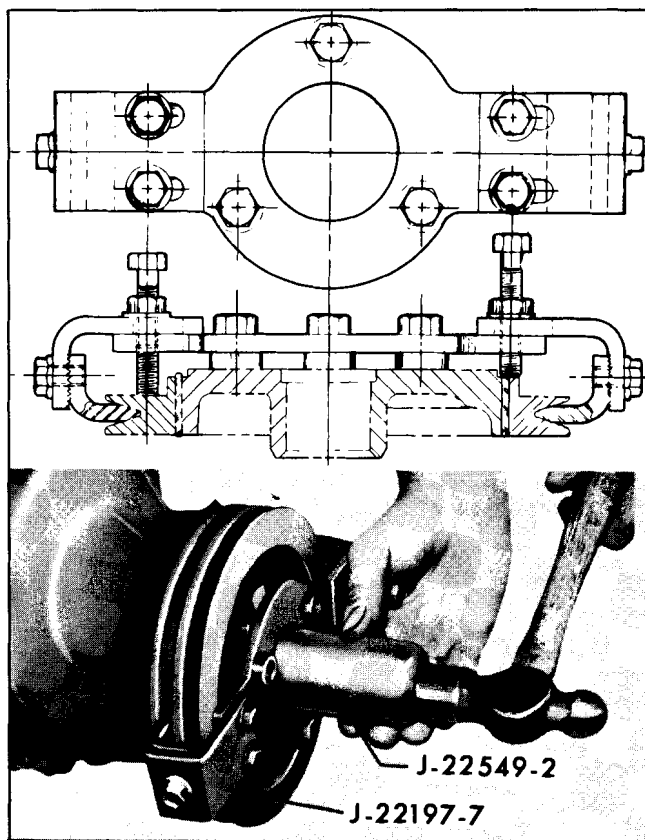

Fig. 6-42 Installing Harmonic Balancer
2. Attach balancer installer tool J-22197 to balancer (Fig. 6-42).